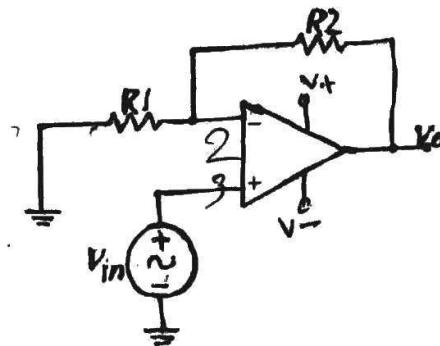

Figure- 2
2. a. Construct the circuit shown at Figure- 2 using $R_2 = 1k$ and $R_1 = 1k$.